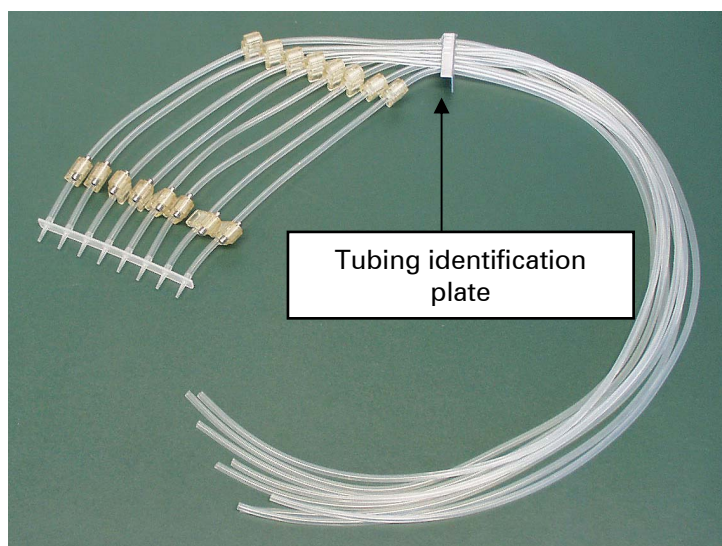
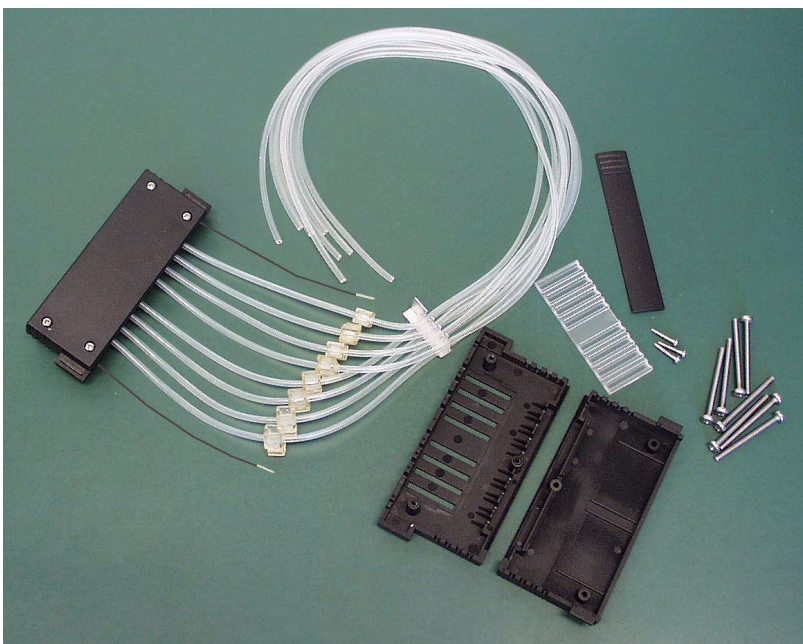
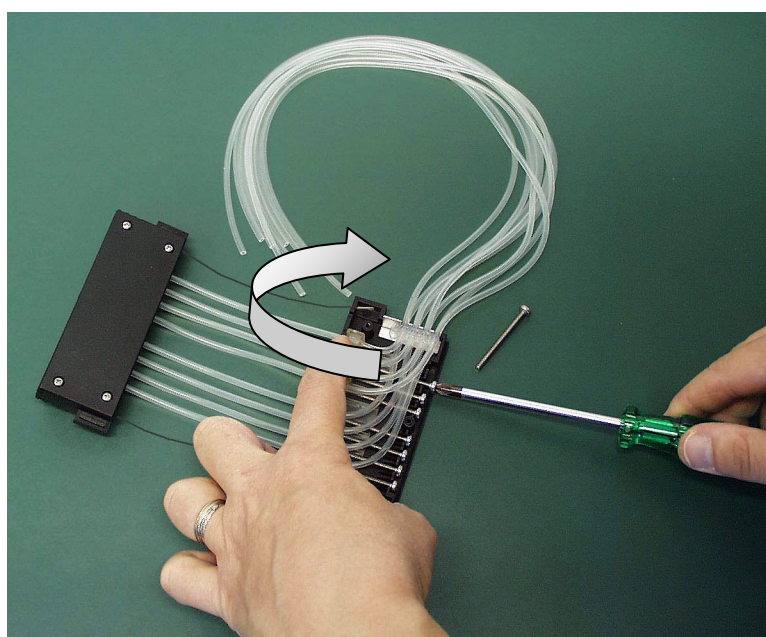
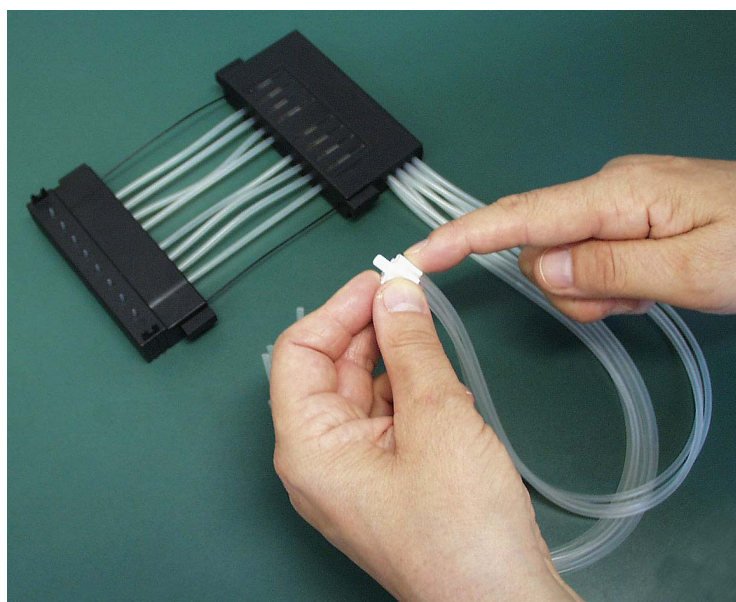

Fig. 7.15 New tubing set with the tip band attached
Fig. 7.21 Parts belonging to the upper part of the dispensing cassette
Fig. 7.25 Fastening the calibration screws
Fig. 7.35 Inserting the tubes into the tubing weight
1. First place the new tubing set onto the laboratory bench with the tip band attached (*Fig. 7.15*). Ensure that you have saved the eight calibration screws (*Fig. 7.21* and *Fig. 7.25*) and the tubing weight (*Fig. 4.4*, item 7 and *Fig. 7.35*) from the previous tubing set.
6. Once the lower part of the dispensing cassette has been fitted, place the remaining parts belonging to the upper part of the dispensing cassette onto the laboratory bench (*Fig. 7.21*).
10. Fasten the calibration screws from the previous tubing into their places using a hexagonal screwdriver (*Fig. 7.25*).
19. Insert the eight tubes into the tubing weight either at this stage or earlier (*Fig. 7.35*). The new tubing set has now been successfully fitted.